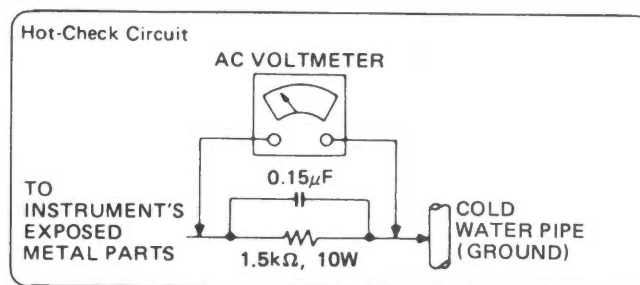

Fig. 1
LEAKAGE CURRENT HOT CHECK (See Fig. 1)
2. Connect a 1.5 k Ω , 10 watt resistor, in parallel with a 0.15 μ F capacitor, between each exposed metallic part on the set and a good earth ground such as a water pipe, as shown in Fig. 1.